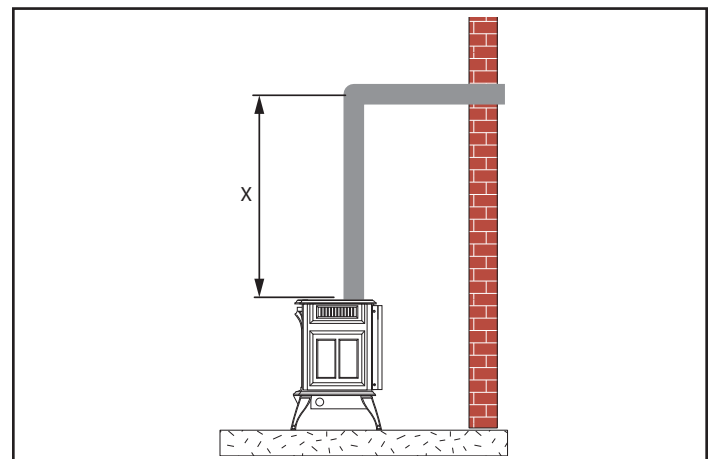

Figure 3.12 - Vertical Height Requirements
3. Place stove into position. Measure the vertical height (X) required from the base of the flue collars to the center of the wall opening, Figure 3.12